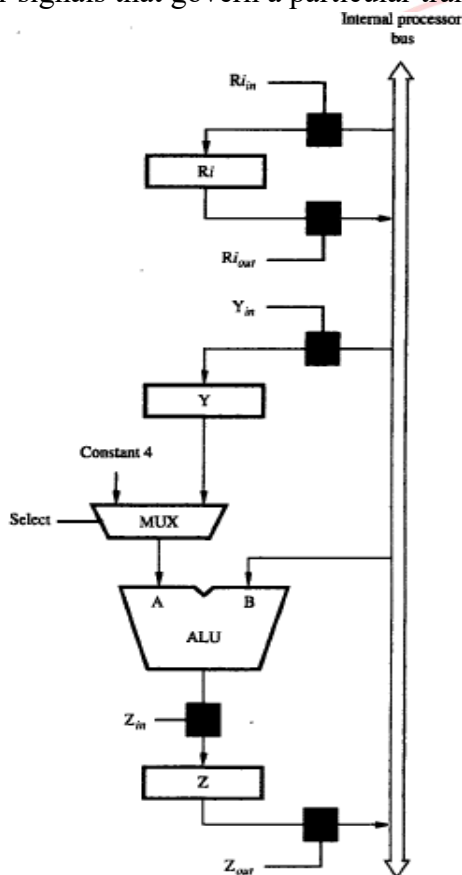

Figure 7.2 Input and output gating for the registers in Figure 7.1.
- 1) Enable the output of registers R1 by setting $R1_{\text{out}}$ to 1 (Figure 7.2).